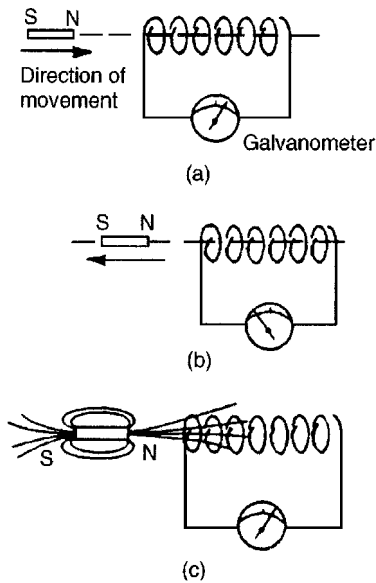

Figure 9.1
Figure 9.1 (a) shows a coil of wire connected to a centre-zero galvanometer, which is a sensitive ammeter with the zero-current position in the centre of the scale.
- (a) When the magnet is moved at constant speed towards the coil (Fig. 9.1(a)), a deflection is noted on the galvanometer showing that a current has been produced in the coil.
- (b) When the magnet is moved at the same speed as in (a) but away from the coil the same deflection is noted but is in the opposite direction (see Fig. 9.1(b))
Figure 9.1(c) shows the magnetic field associated with the magnet. As the magnet is moved towards the coil, the magnetic flux of the magnet moves across, or cuts, the coil. **It is the relative movement of the magnetic flux and the coil that causes an e.m.f. and thus current, to be induced in the coil.** This effect is known as electromagnetic induction. The laws of electromagnetic induction stated in section 9.2 evolved from experiments such as those described above.